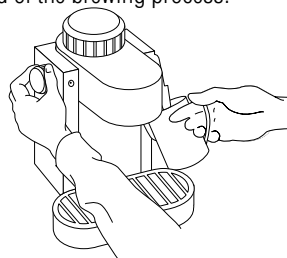

FIGURE 4
5. Hold the pitcher under the frothing tube so that the frothing aid is slightly immersed in the milk. Turn the control knob slowly to the “steam” position. Gently move the pitcher in a circular motion around the steam nozzle. Because warm milk does not froth, the milk should be frothed from just below the surface. (*See Figure 4*)